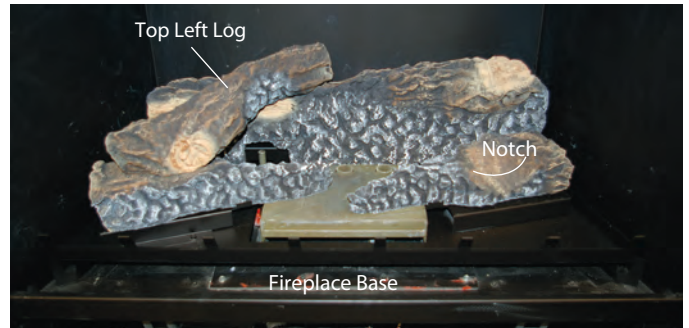

Figure 8d. Top Left log placement.
Step 4. Place the top left log as shown in *figure 8d*. A flat area is provided on the front left log, and a notch in the Rear bottom log, as shown in *figure 27c*. Install the glass door. If the flame does not appear satisfactory, double-check the air inlet and exhaust outlet pipe to ensure that they are unobstructed.